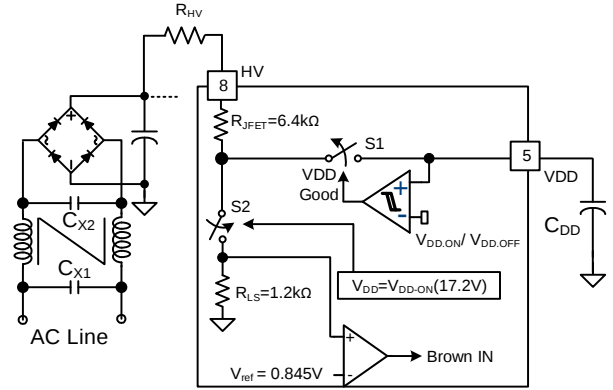
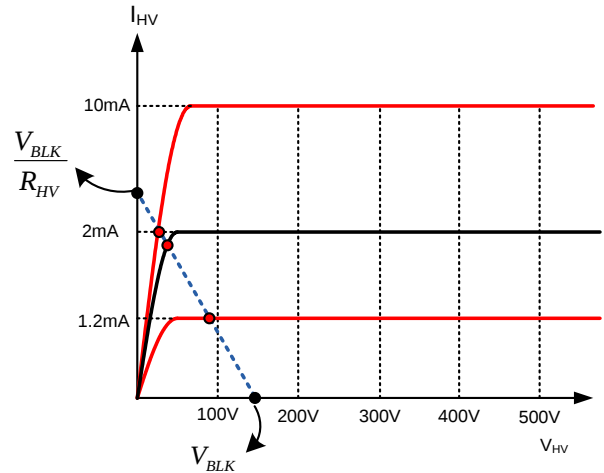

Figure 31 HV Startup Circuit
Figure 32 Characteristics of HV pin
Figure 31 shows the high-voltage (HV) startup circuit. An Internal JFET provides a high voltage current source, whose characteristics are shown in Figure 32. To improve reliability and surge immunity, it is typical to use a R_{HV} resistor between the HV pin and the bulk capacitor voltage. The actual current flowing into the HV pin at a given bulk capacitor voltage and startup resistor value is determined by the intersection point of characteristics I-V line and the load line as shown in Figure 32.
During startup, the internal startup circuit is enabled and the bulk capacitor voltage supplies the current, I_{HV} , to charge the hold-up capacitor, C_{VDD} , through R_{HV} . When the V_{DD} voltage reaches V_{DD-ON} , the sampling circuit shown in Figure 31 is turned on for t_{HV-det} (100 μ s) to sample the bulk capacitor voltage. Voltage across R_{LS} is compared with reference which generates a signal to start switching. If brown-in condition is not detected within this time, switching does not start. Equation 8 can be used to program the brown-in of the system. If line voltage is lower than the programmed brown-in voltage, FAN604H goes in auto-restart mode.